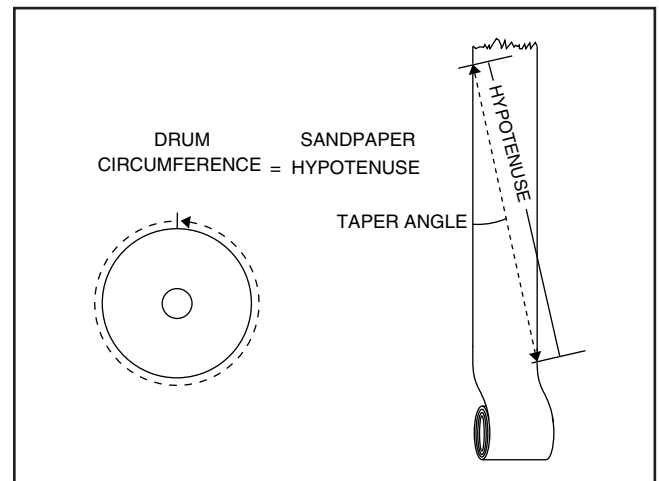

Figure 35. Finding sandpaper hypotenuse.
- If using a different sandpaper with different width than 6", use pattern example in **Figure 35**.